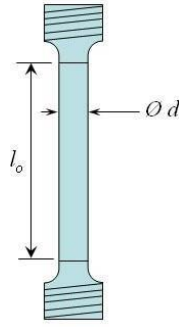

Figure 1. Schematic of a tensile specimen.
A discussion on mechanical properties using tensile testing is provided in Chapter 7 of the Callister text. The geometry of the specimens used in this laboratory experiment is shown in Figure 1 below.
- 2) Measure the dimensions necessary for analysis (l_0 and d) on all your specimens. Refer to Figure 1.